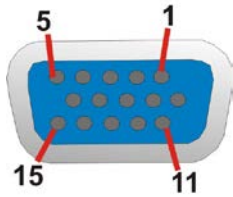

Figure 3-22: VGA Connector
- CN Pinouts:** See **Figure 3-22** and **Table 3-23**